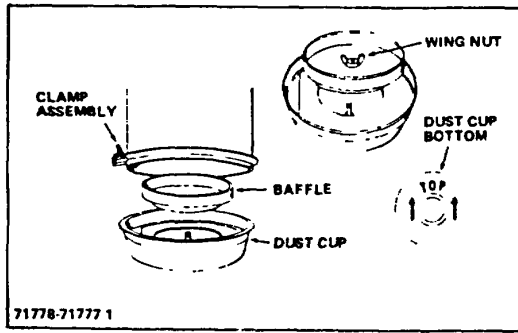

Figure 3-2. Baffle and Dust Cup Details
- a. Loosen clamp assembly (Fig 3-2) and remove dust cup.
Bottom of dust cup is marked with arrows and the word TOP. Air cleaner is mounted in horizontal position. Be sure dust cup arrows point up (Fig 3-2). DO NOT USE OIL IN DUST CUP.
Air cleaner is mounted in horizontal position. Be sure dust cup arrows point up. (See Fig 3-2) DO NOT USE OIL IN DUST CUP. Always refer to manufacturer's instructions on air cleaner.